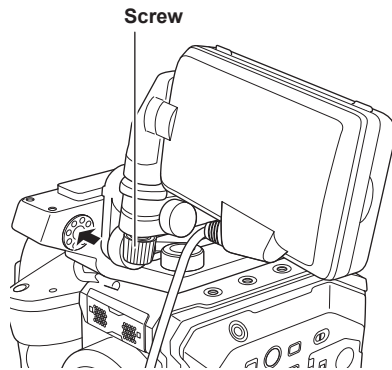

Fig. 1
**1** Insert the supplied LCD monitor mounting attachment to the LCD monitor unit mounting section of the handle. (Fig. 1)